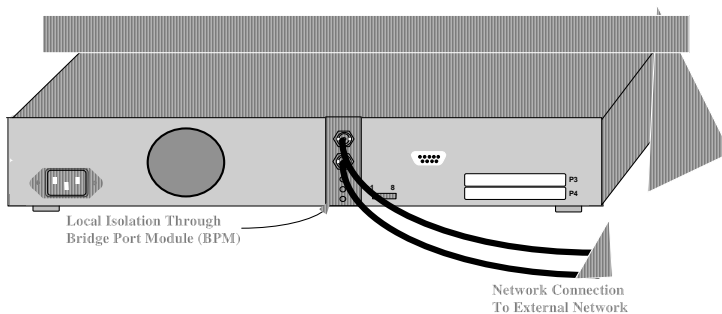

Figure 2.12.2e: Local Isolation with BPM Bonus Port Configuration
2. Throughput Increase: By using a BPM to isolate a user group segment having significant local traffic, it is possible to increase overall network throughput. For example, a segment containing a group of workstations and servers may have heavy local traffic, but only a small amount of traffic that is directed outside the local segment. A BPM connecting this local segment to the rest of the network, as shown in Figure 2.12.2e, will keep the local segment traffic bridge-isolated from the rest of the network, thus increasing the effective bandwidth on both the local segment and the rest of the network.